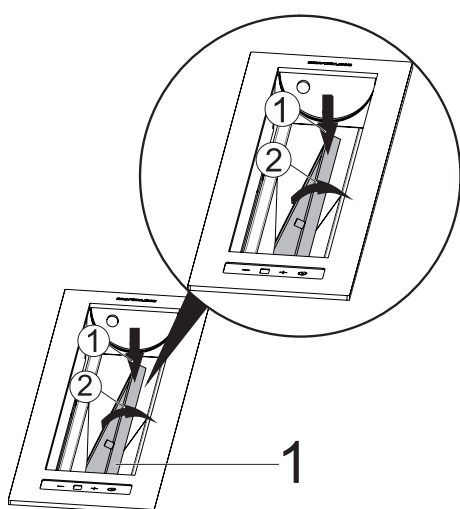

Fig. 17
■ Insert the aluminium metal filter inside the appliance via the holder on it (Fig. 17/1).
■ Lay down the aluminium metal filter towards the arrow and insert it in the appliance (Fig. 17/2)